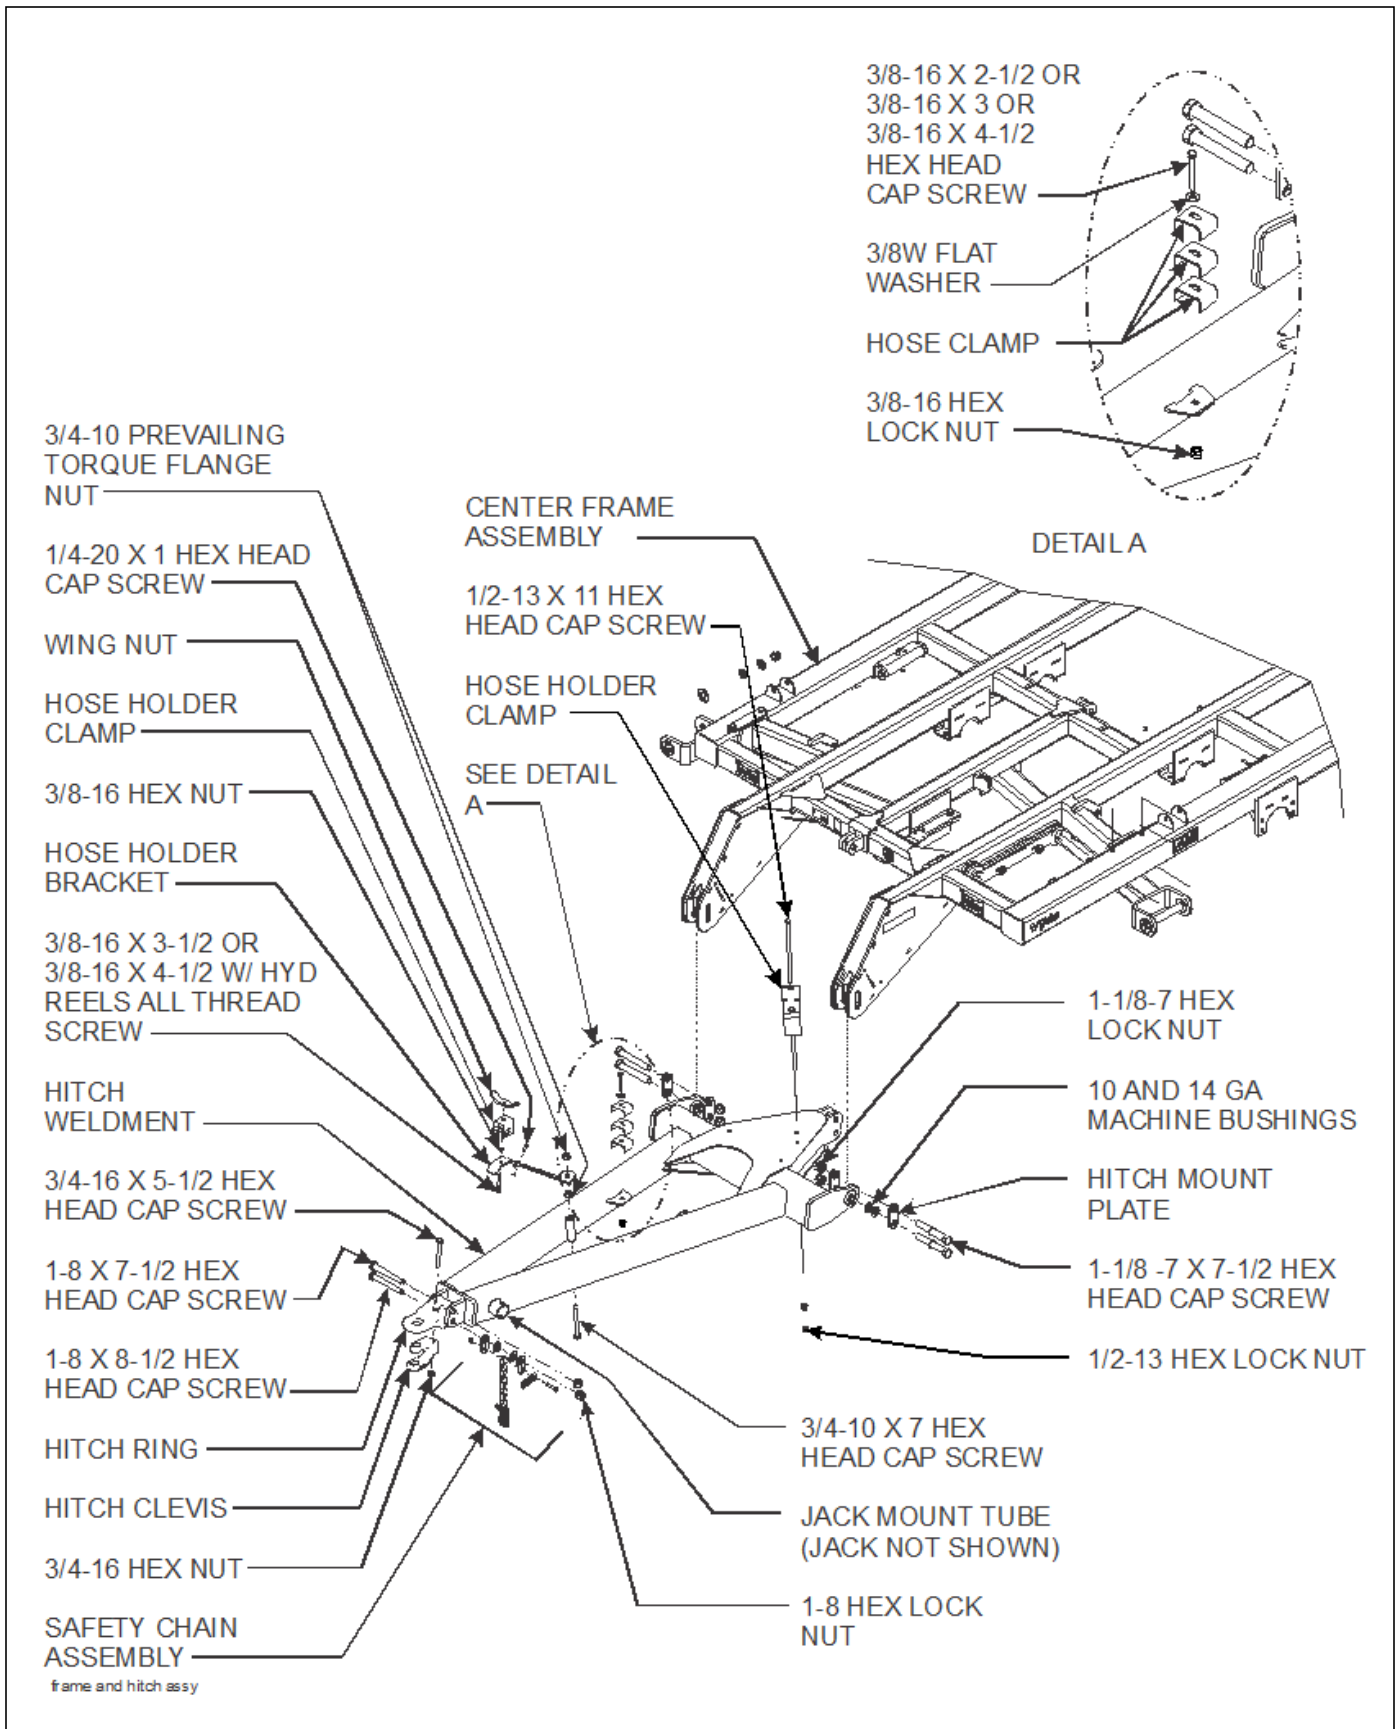

Figure 3-1: Frame and Hitch Assembly Installation
2. Attach the hitch weldment to the front of the center frame using 1-1/8-7 x 7-1/2 hex head cap screws, machine bushings, hitch mounting plates, and hex lock nuts (**See Figure 3-1.**) Machine bushings are provided to remove the slack on each side of the ball joints and center the hitch. Use bushings as required.